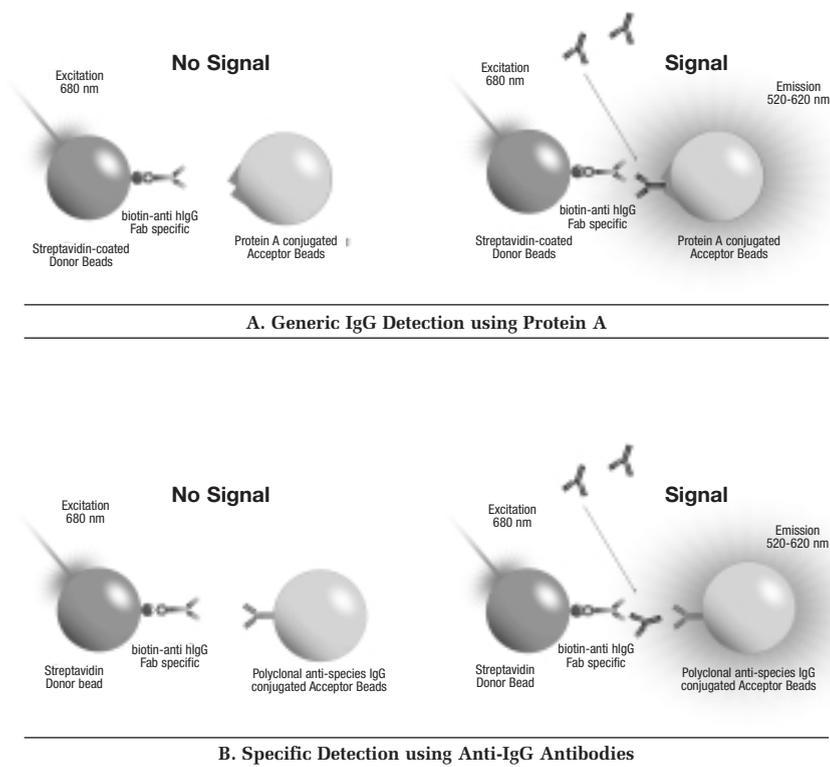

Figure 6: IgG Detection
For many AlphaScreen assays there are various possible formats that can be chosen. Careful consideration must be given to numerous parameters such as the desired assay functionality, sensitivity range, specificity and nature of the samples to be analyzed. Cost, ease of reagent production, reagent availability, affinities of interacting assay components, stability/lability of binding partners will all influence the performance of the assay. In addition, the versatile nature of the AlphaScreen technology often permits the choice of various AlphaScreen reagents for a given assay. For example, the signal increase assay for detection of IgG concentrations may be run in two formats using either Protein A Acceptor beads (A) or anti-species IgG Acceptor beads (B) (see Figure 6).